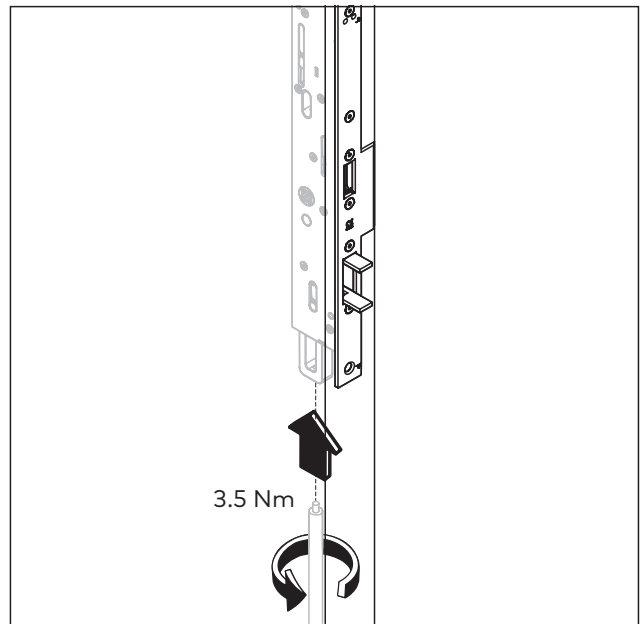

Fig. 48 Screw in lower espagnolette bolt
- 9.** Insert the lower espagnolette bolt into the fixed leaf and screw it into the lock with 3.5 Nm (Abb. 48).